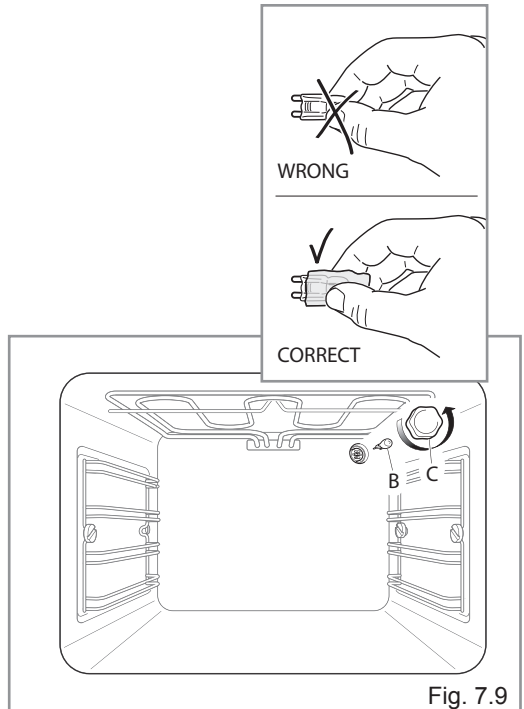

Fig. 7.9
- Remove the protective cover "C" (fig. 7.9);